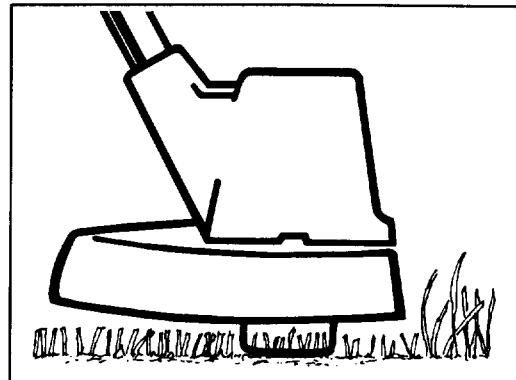

Figure 14
9. **Never drag the trimmer spool cap on the ground while trimming (Fig. 14).** This causes motor overload and spool cap wear.